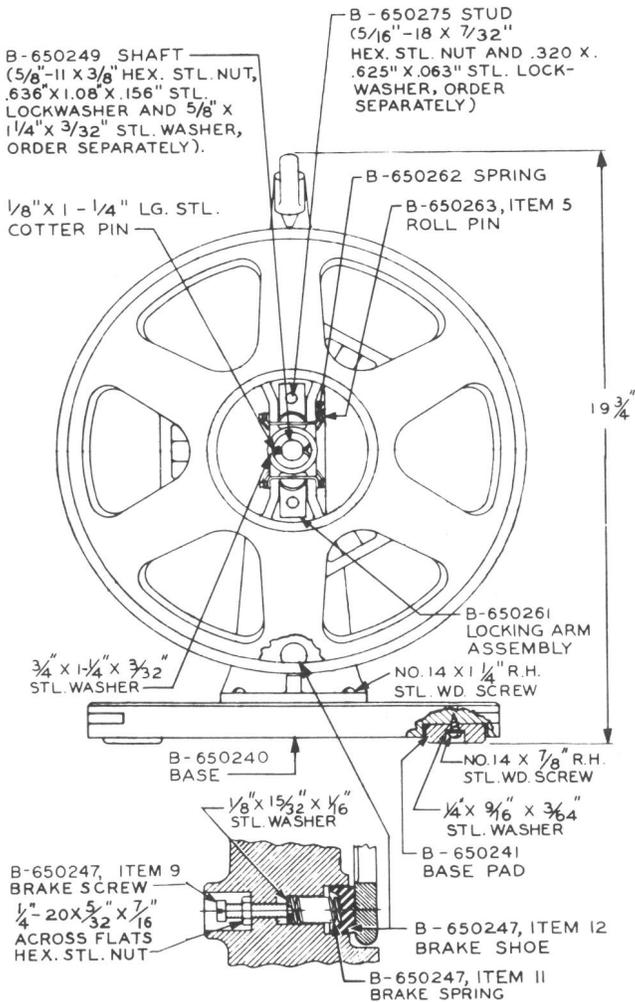
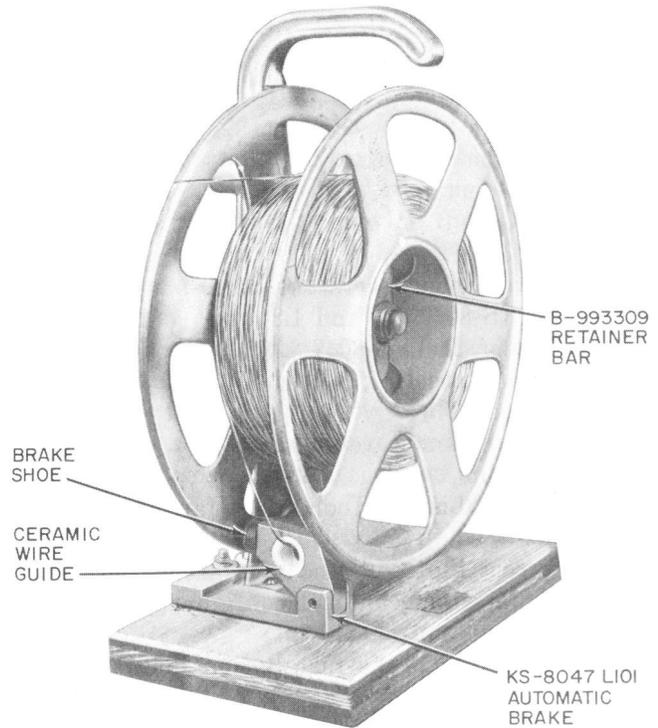

Fig. 1—Wire Reel, KS-8047 L1
Fig. 2—Wire Reel, KS-8047 L2
- Correct Fig. 2, 3, and 4 in accordance with the latest mechanical configuration
1.05 The KS-8047 L1 (Fig. 1) and the KS-8047 L2 (Fig. 2) wire reels consist of two flanged members mounted on a supporting arm and a wooden base. The outer flange assembly is readily removable and also compensates for variations in the width of wire coils. Three take-up springs are provided for gripping the eye of the coil. On the KS-8047 L1 wire reel, the outer flange is held on by a locking arm assembly or a retainer bar on later models. On the KS-8047 L2 wire reel, the outer flange is held on by a retainer bar which screws on the end of the shaft. The KS-8047 L1 wire reel is equipped with an adjustable drag
brake without changing the direction of the wire (Fig. 2).